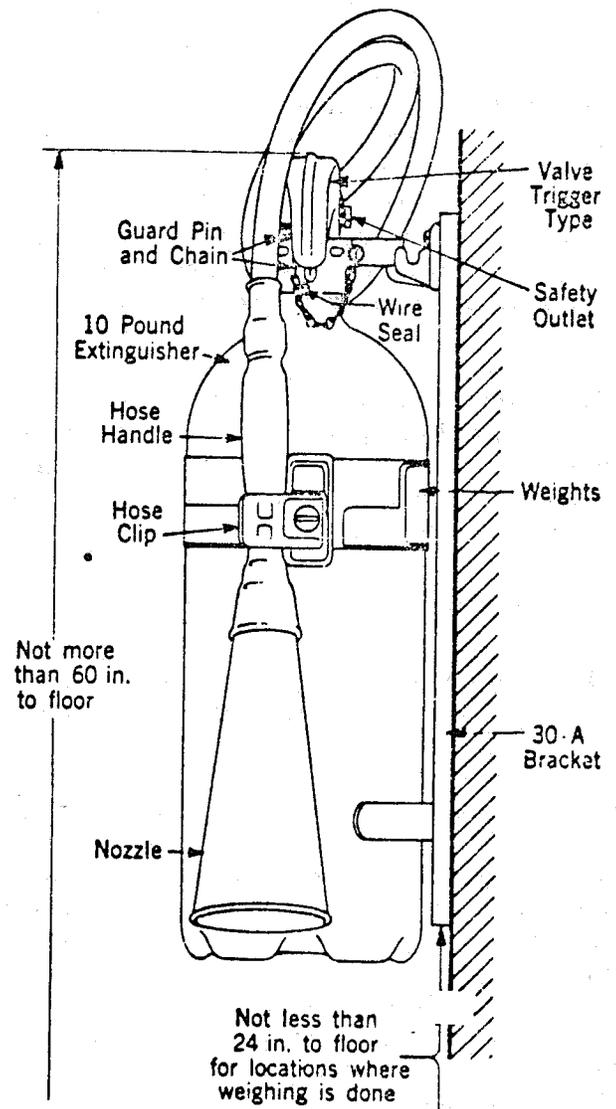

Fig. 1
**2.01** Each extinguisher consists of a steel cylinder containing carbon dioxide under pressure which is discharged as a gas through a hose and a cone shaped nozzle when released. A general view of the 10-pound extinguisher having trigger release is shown in Fig. 1.
**4.01 10-Pound and 15-Pound:** These extinguishers should be mounted on a No. 30A Bracket. Fig. 1 indicates the proper method of mounting.